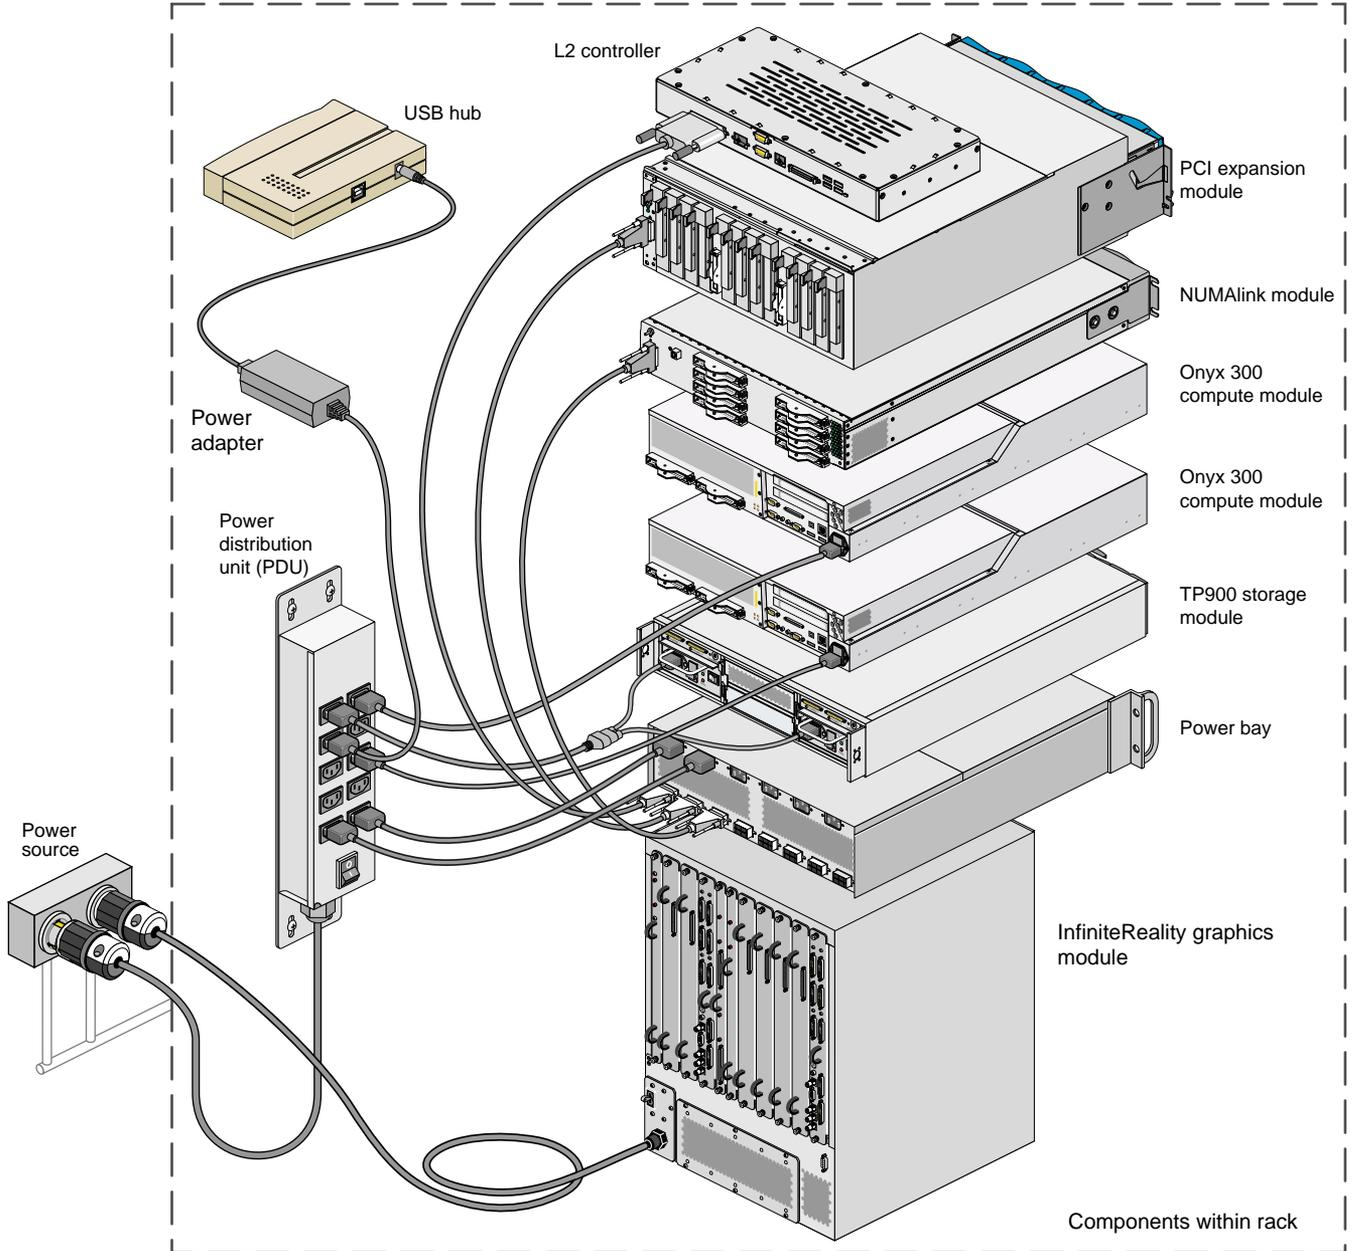

Figure 2-10 PDU and Power Connections
- The InfiniteReality graphics module(s) and the external power receptacle(s) (refer to Figure 2-10).
- The power bay and the following modules: NUMALink module, PCI expansion module(s), and L2 controller module (refer to Figure 2-10).
Figure 2-10 shows the connection between an InfiniteReality graphics module and an external power receptacle. It also shows the PDU and power bay connections to the other components within the system.